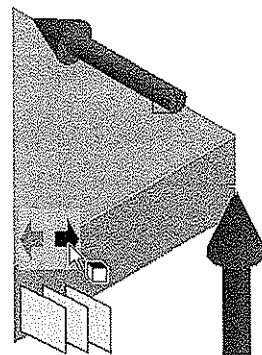

Figure 9-16 Choosing the Flip button from the Graphics screen
15. Choose the Flip toggle button available in the Graphics screen, refer to Figure 9-16, to specify the direction of load as downward.